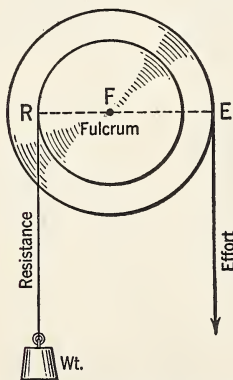

FIG. 255. Wheel and axle. Both turn on same shaft, or the same center.
Let us refer to Fig. 255. We have two wheels of unequal diameter fastened together so that they can turn around the axis, F . In one revolution, the effort, E , travels a distance equal to the circumference, C , of the wheel. In the same time, the resistance, R , will travel a distance equal to the circumference, c , of the axle. Since $De = C$, and $Dr = c$, then the mechanical advantage, M.A., of the wheel and axle equals C/c . Instead of the expression,
4. Study Fig. 255. Show that a wheel and axle is a lever.